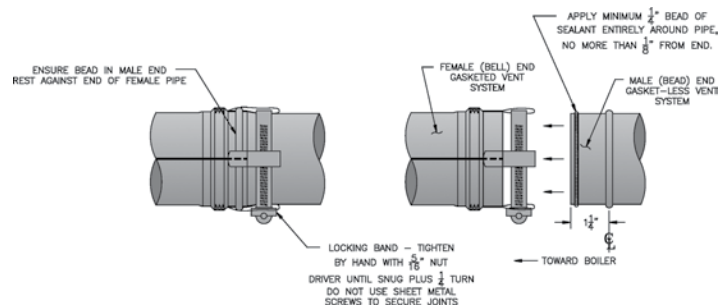

Figure 4C: Gasket-Less Male and Gasketed Female Vent Joint Detail
In the event a gasketed vent component and a gasket-less vent component must be interconnected, follow the instructions associated with Figure 4C or 4D. The two guiding principles of these instructions are as follows:
1. Procedure for joining the male end of Gasket-Less Vent with the female end of Gasketed Vent. See Figure 4C.